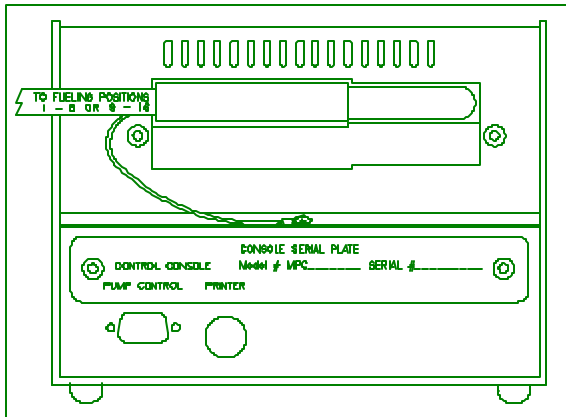

Figure 2 Hybrid console with one mechanical IF board
2. Connect the Tokheim pump/dispenser data wires to the MPC-TM84 communication board terminal strips in the TMS MPC for BENNETT IC box shown in fig. 2 on page 4.
Refer to figure 2 to connect a TMS-47 mechanical cable to a hybrid MPC console with one mechanical IF Board.
14. Figure 2 on page 4 shows the Emergency Off connector located in the TMS MPC for TOKHEIM IC Box. The EMERGENCY OFF spdt relay is for pilot duty only (max. 1A @ 115VAC). The connector provides a dry contact relay closure across COM and NO when the console is ON and the "EMER OFF" switch has not been activated (EMER OFF light not blinking). The relay is in its normal (de-energised) state and breaks this connection whenever: